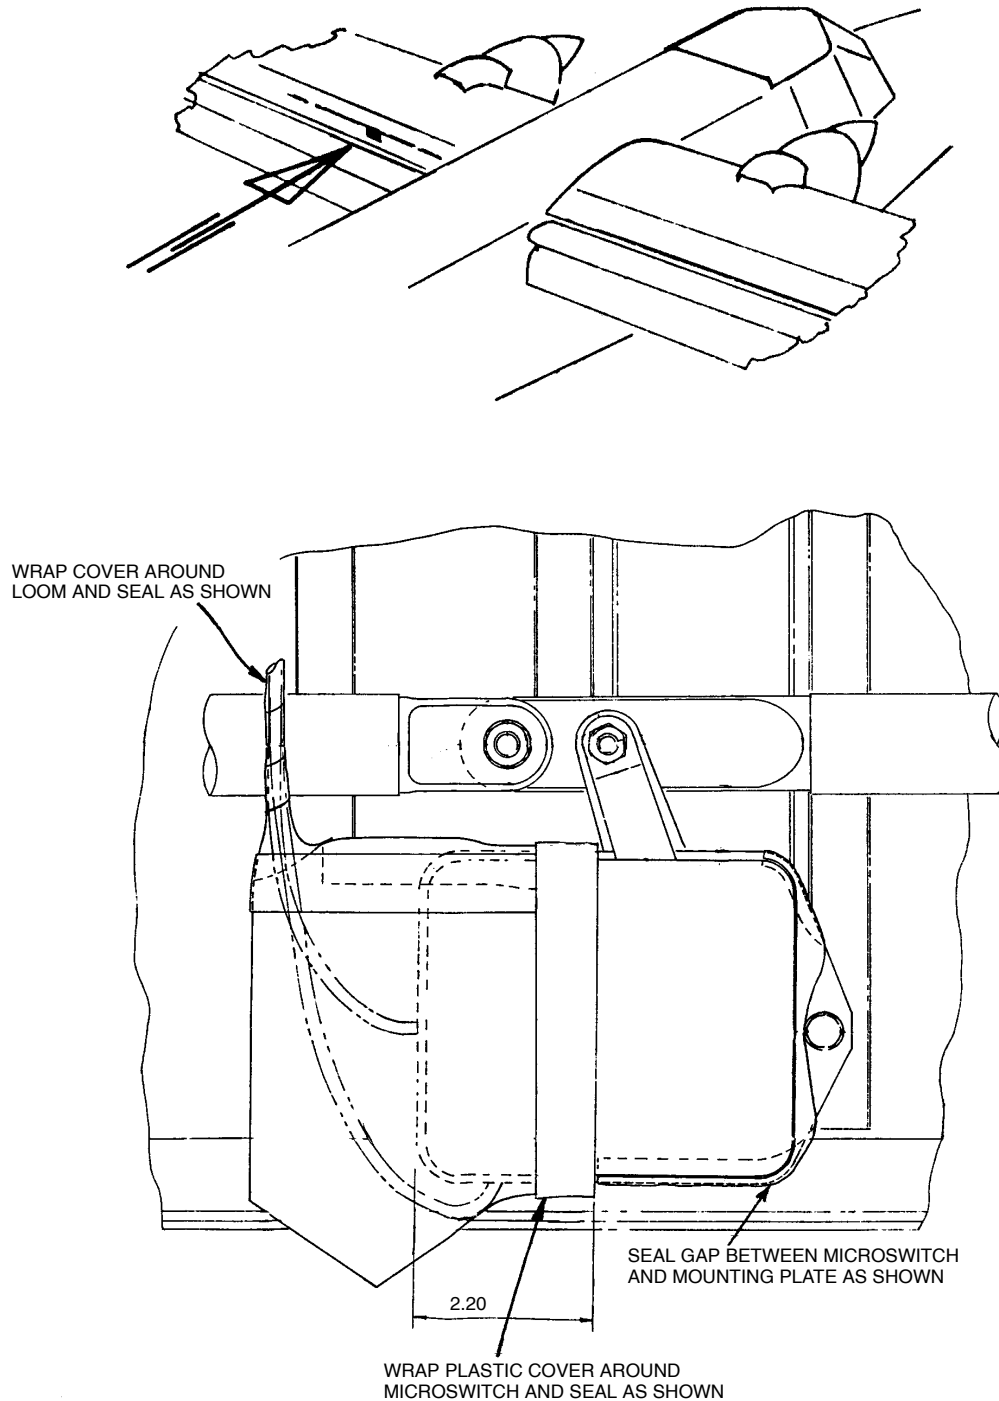

Figure 1 Microswitch Cover Installation
- D. Fit the plastic cover and seal with polyester packaging tape 0.5 or 0.75 in wide in the areas shown in Figure 1.